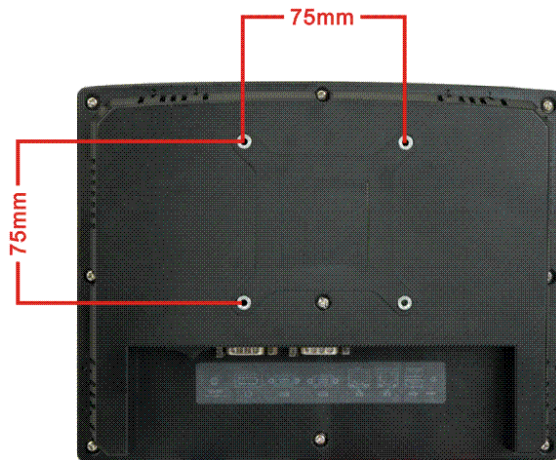
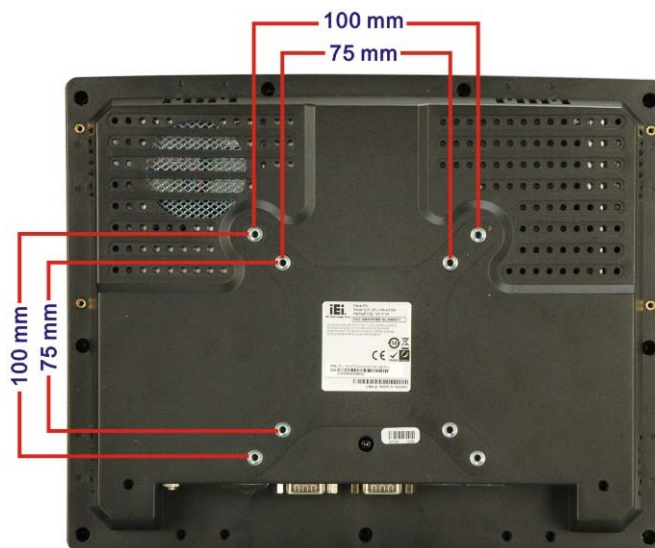

Figure 4-20: AFL-07A-N270/AFL-08AH-N270 Arm Mounting Retention Screw Holes
Figure 4-21: AFL-10A-N270/AFL-12A-N270 Arm Mounting Retention Screw Holes
Step 3: Align the retention screw holes on the mounting arm interface with those in the flat panel PC. The AFL-07A-N270/ AFL-08AH-N270 arm mount retention screw holes are shown in **Figure 4-20** and the AFL-10A-N270 /AFL-12A-N270 are shown in **Figure 4-21**.